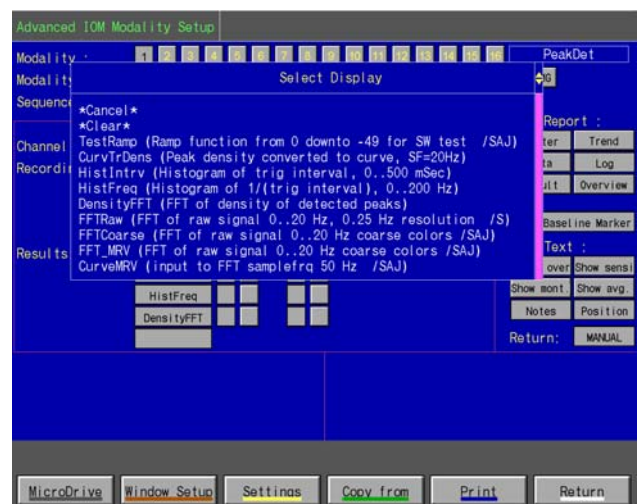

Figure 102 The Select Display Selection List
-Results: up to 5 analysis results may be selected per free running channel. Each of these analyses is selected by clicking in a box below **Display ID**. The Select Display List Box appears, see Figure 102 The Select Display Selection List below. From this list, you can select between the various types of analysis listed. Click **cancel** to return without changing the analysis, or click **clear** to clear the field.